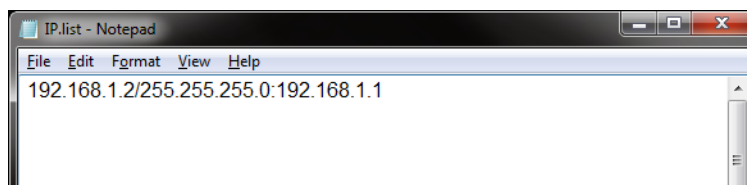

Fig 63. Example IP.list.txt Text File
- **IP.list.txt** - Edit the IP.list.txt file so that the correct IP address details are in the file (see Fig 63.)